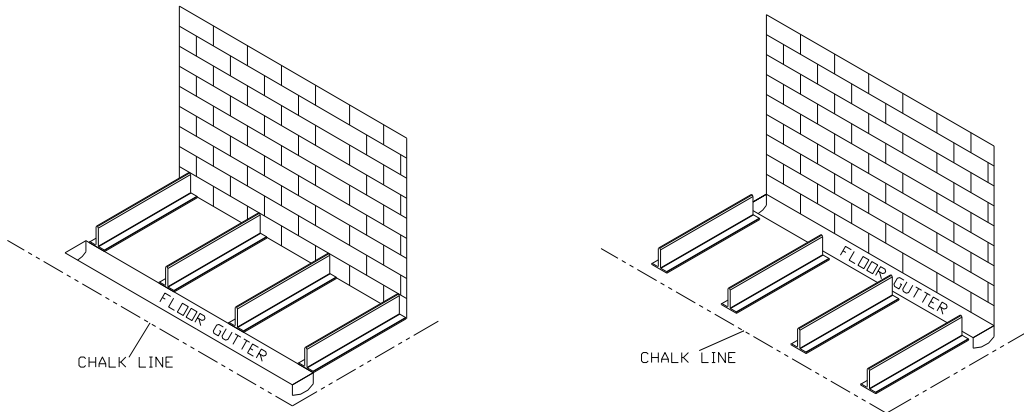

Figure 4
1. Refer to the floor plan and select a starting point for assembling the runs (preferably on the end of a bank of runs at the intersection of the back panel and outside division panel), which is best for your application. Once selected, identify the exact location of the outside corner of that run. Mark both sides of the corner on the floor with a chalk line (or other preferred method) as shown in Figure 4. **Important:** Make sure that the two lines are perpendicular and in the exact final location desired for the corner of your kennel.
2. Layout the “Sanislope T” sections approximately where they will lie on the final floor plan as shown in Figure 4.